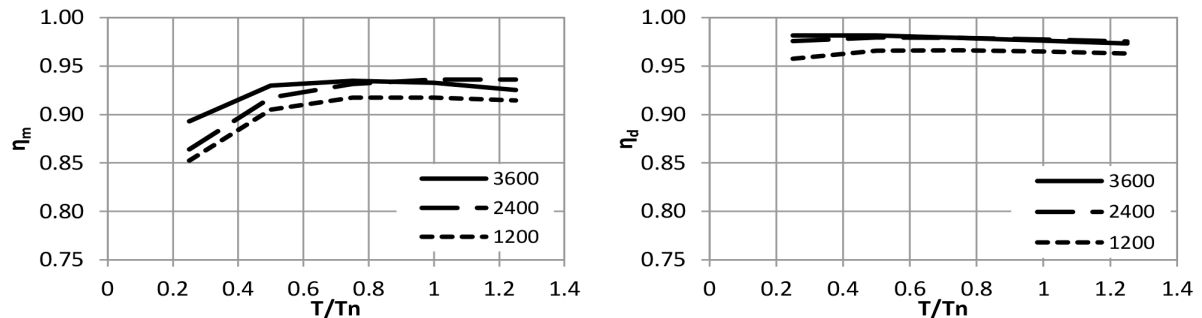

Figure 3. Example of motor and drive performance data curves.
Figure 3 shows a typical dependency of motor (η_m) and drive efficiency (η_d), depending on the ratio of shaft torque to nominal motor torque (T/T_n), for three
The energetic efficiency of the motor (η_m) and the VSD (η_d) depend on speed and torque (as seen in Figure 3). The torque and, in case of VSD, the speed will vary with capacity. The compressor shaft power relates to the torque and speed according to Equation (7).